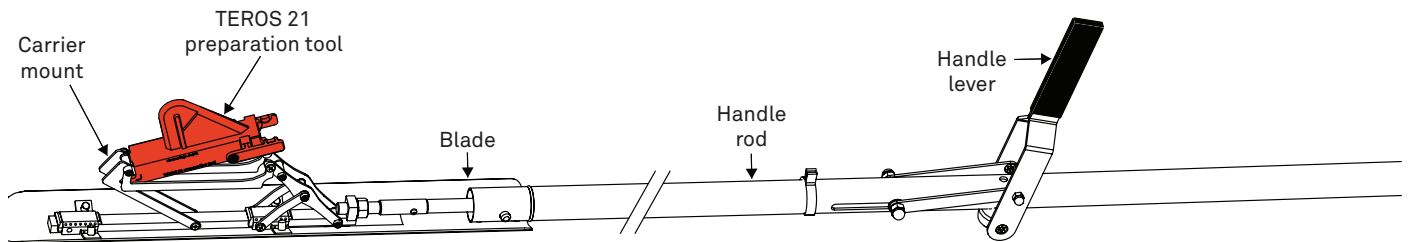
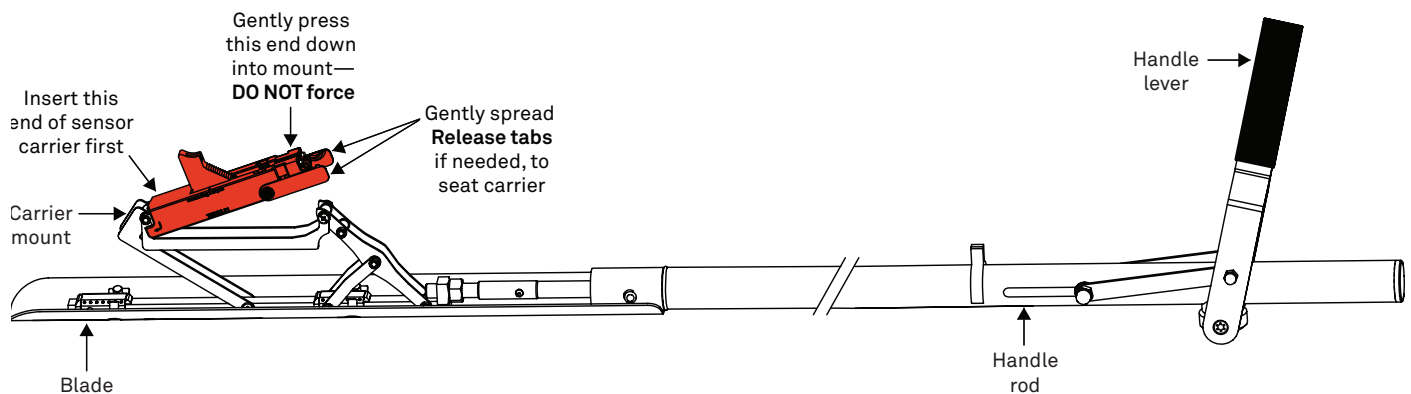

Figure 19 Mount preparation tool
Figure 23 Mount the TEROS 21 sensor carrier
Always install the deepest sensor first. The preparation tool, sensor carrier and sensor should only be inserted while the carrier mount is extended (handle lever in a horizontal position) as shown in Figure 19 and Figure 23.
3. Slide the tool end that the **Arrow** points to into the carrier mount (Figure 19).
3. Slide the carrier end that the **Arrow** points to into the carrier mount (Figure 23).